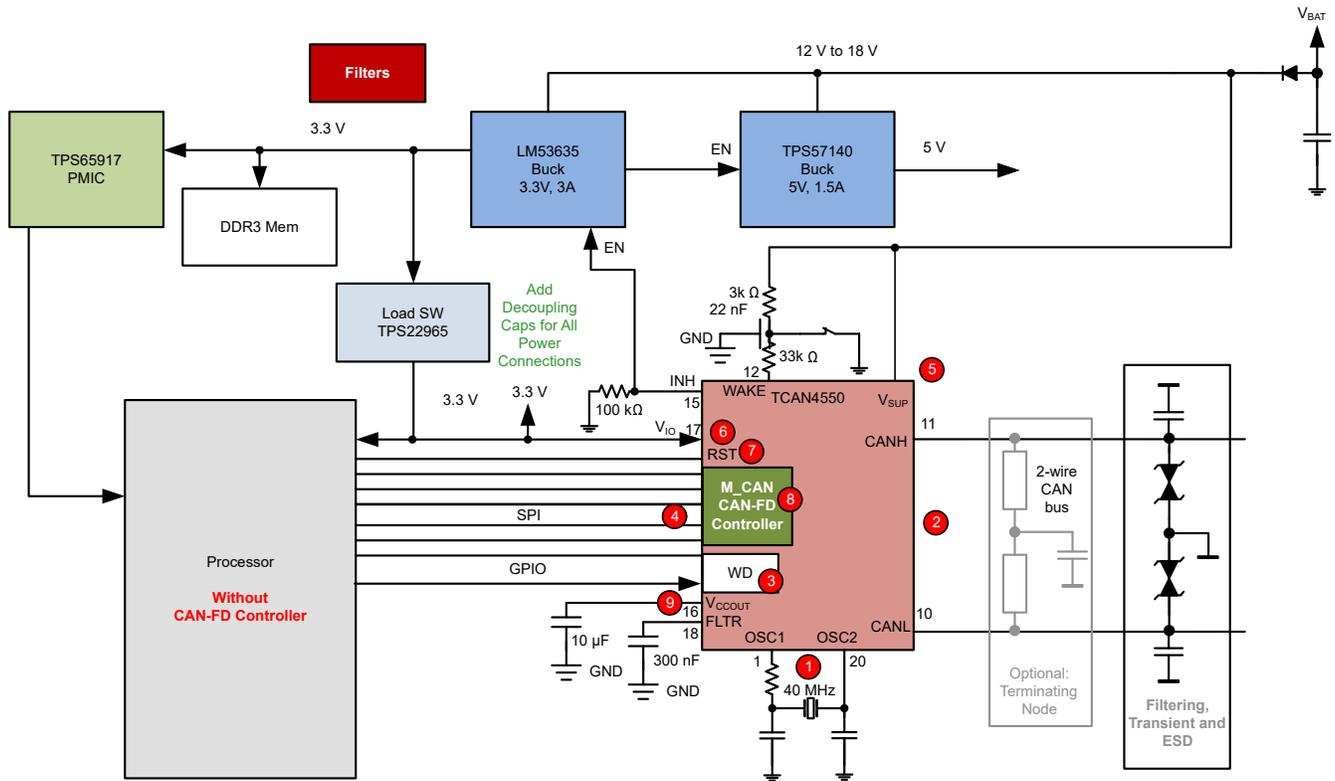
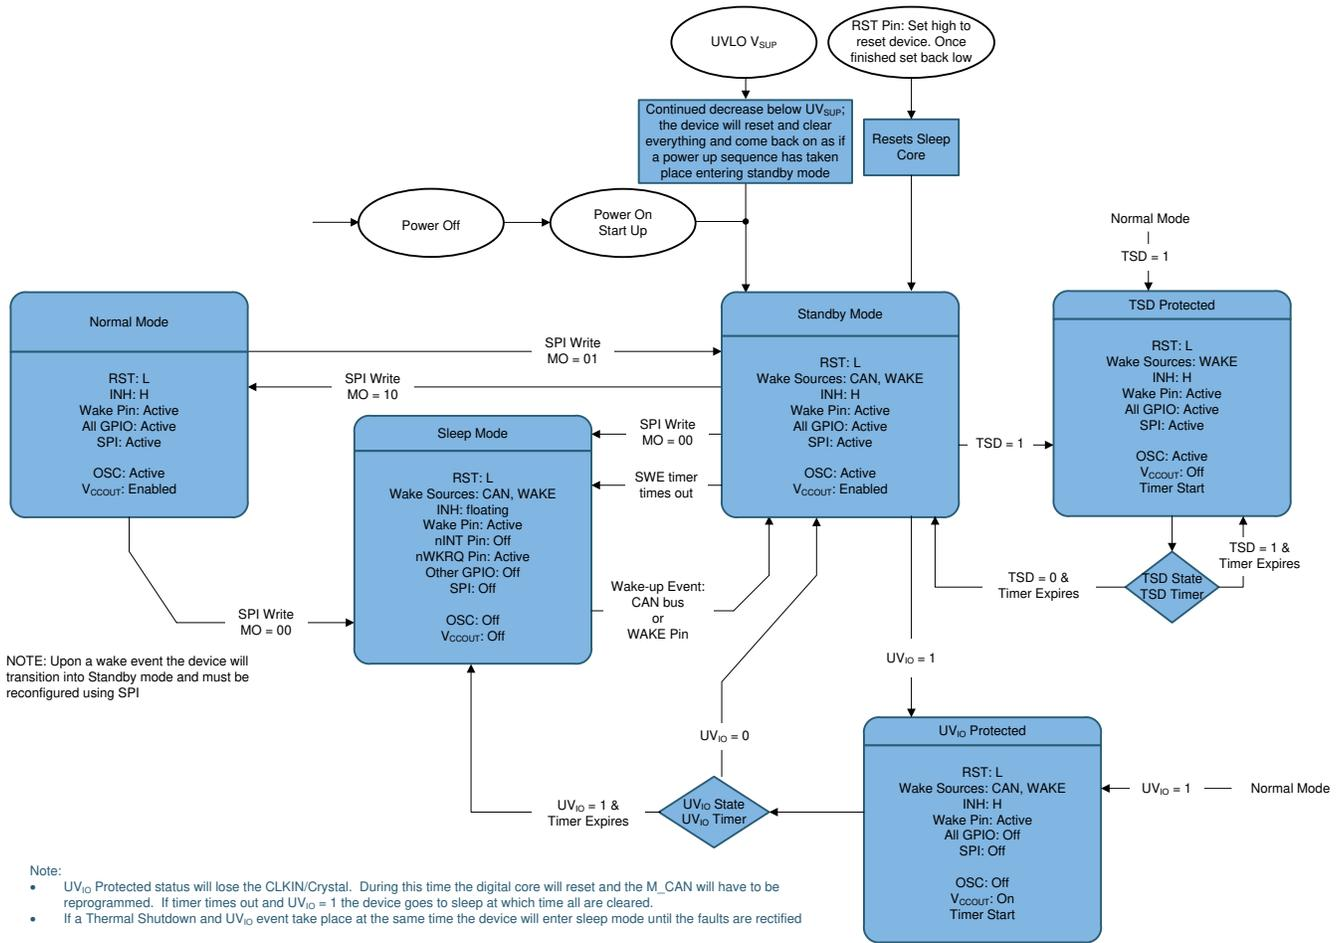

Figure 3-5. Potential Failure Points
Figure 3-6. State Diagram
Figure 3-5 provides potential failure points that have diagnostic or test ability mechanisms. See Table 3-1 for each potential failure point and subsection discussing this failure point.
The TCAN4550-Q1 device has several features that determines specific fault conditions in a system and indicate this back to the processor or place the device into a protected state that may include Sleep mode. Figure 3-5 is used to indicate these fault conditions. Figure 3-6 provides the devices state diagram and shows two protected modes and Sleep mode.
The TCAN4550-Q1 state diagram figure, see Figure 3-6, shows the biasing of the CAN bus in each of the modes of operation.
The sleep wake error (SWE) timer is a four minute timer that is used to place the device into Sleep mode due to certain faults. The SWE timer is used to help mitigate certain faults shown by items 1, 4, 5 and 6 in Figure 3-5 and is considered safety mechanism SM-01.
The TCAN4550-Q1 has a temperature monitor located by two components that can cause thermal issues;  $V_{CCOUT}$  LDO and CAN transceiver. This is a device protection mechanism. When TSD temperature is reached, the device enters the TSD protected state as shown in Figure 3-6. In this state, the  $V_{CCOUT}$  LDO is turned off and the CAN transceiver is disabled. This helps mitigate bus communication fault, shown as 2, and  $V_{CCOUT}$  issues, shown as 9, in Figure 3-5 and is considered safety mechanism SM-05. Undervoltage lock out prevents operation of the device and communication with the MCU and the CAN FD Bus when there is insufficient power on  $V_{SUP}$ ,  $V_{IO}$  or  $V_{CCOUT}$ .